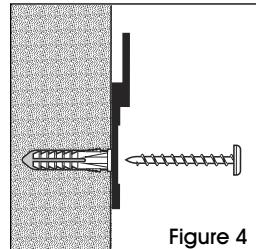

Figure 4
4. Insert wall anchors into holes, flush with the wall. Insert 1 1/4" screws through hanging brackets, into the wall anchors. Tighten firmly. (See Figure 4)